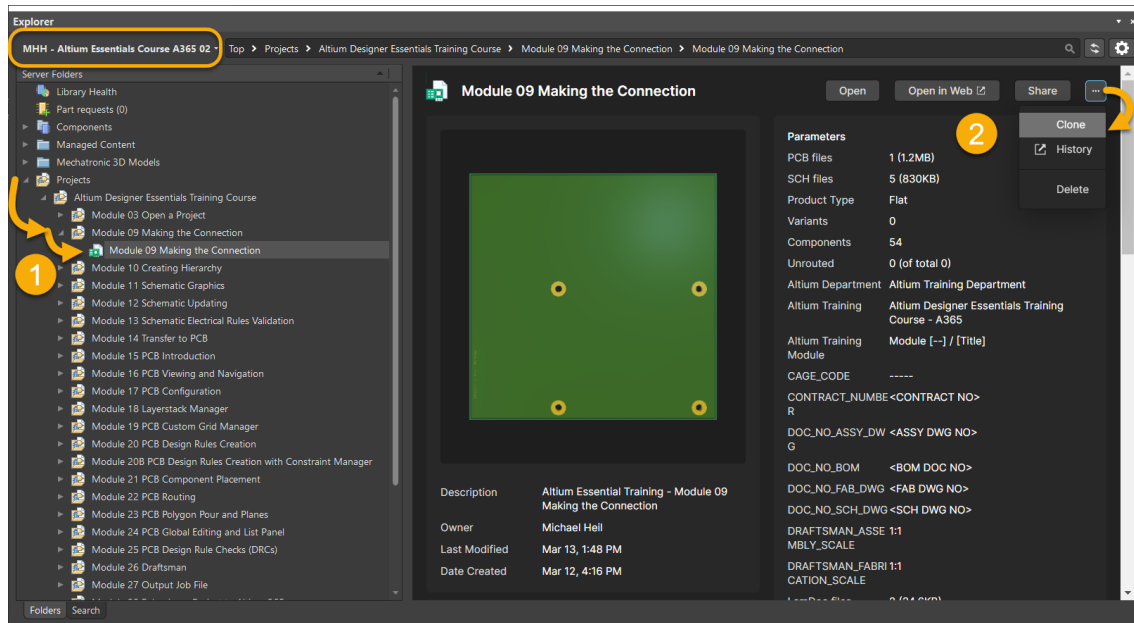

Figure 3. Copy Training Project
11. Select the Ellipsis Button **...** and the command **Clone** as seen at Figure 3.